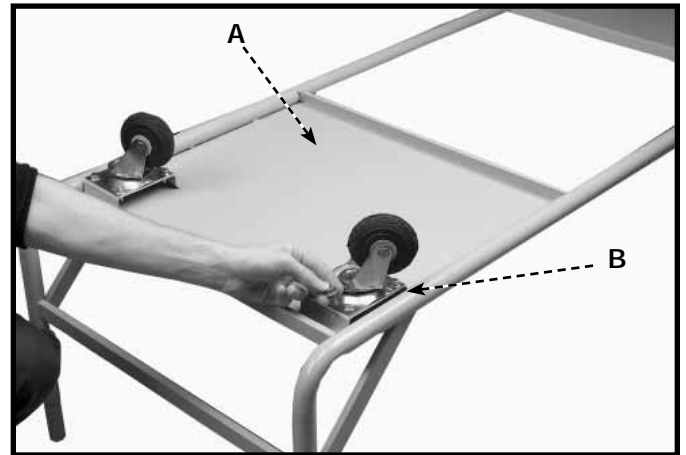

Fig. 1F
1. Turn stand (A) upside down, as shown in Fig 1F.
2. Align holes in caster assembly (B) with holes in plates on stand. Place small 5/16" flatwasher on a 5/16"x3/4" hex head screw. Insert screw through hole in caster assembly and thread into hole in stand. Repeat for all holes in all casters.